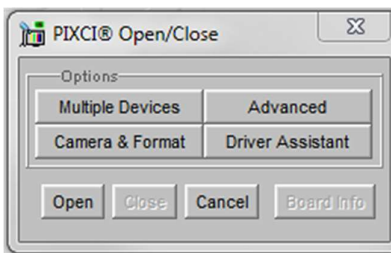

Figure 1: Open / Close
2. Select PIXCI dropdown menu and select PIXCI Open Close, Figure 1 should appear.